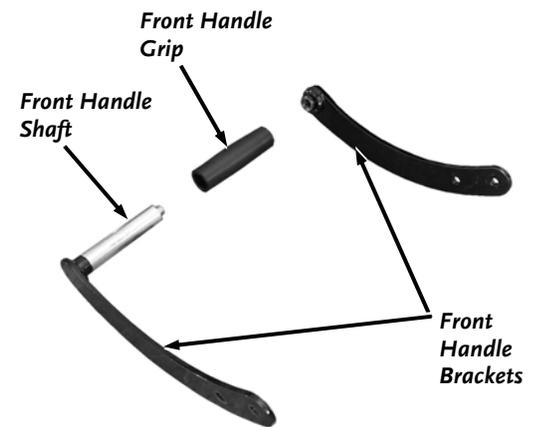

Figure 4
2. Slide the Rubber Grip onto the Front Handle Shaft and screw the Handle Brackets onto the Front handle Shaft until snug. Align the Brackets parallel to each other (**Figure 4**).